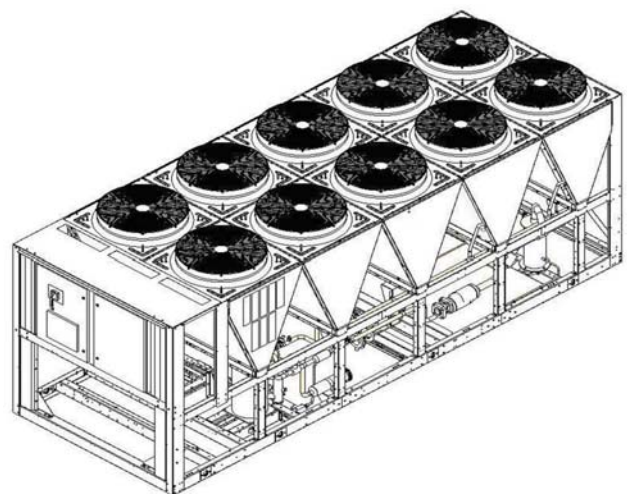

FIG. 7 – V-GUARD OPTION
**V-GUARD PANELS** – Solid panels, painted the same colour as the unit, are installed along the sides of the units to cover exposed piping within the condenser section without impacting airflow. These guard panels can be combined with End Hail Guard option for additional protection from debris. See Figure 7.